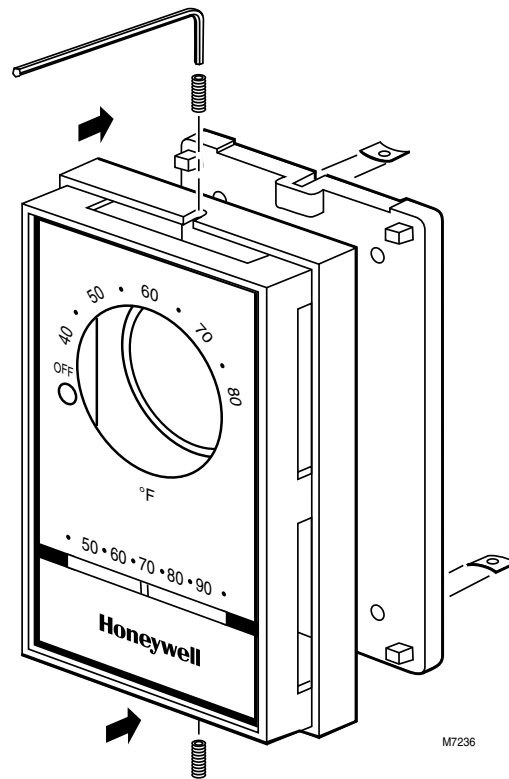

Fig. 4. Locking cover installation.
- 2 Insert the Tinnerman Speed Nut® (included) into the slot on the lower back of thermostat base. See Fig. 4.